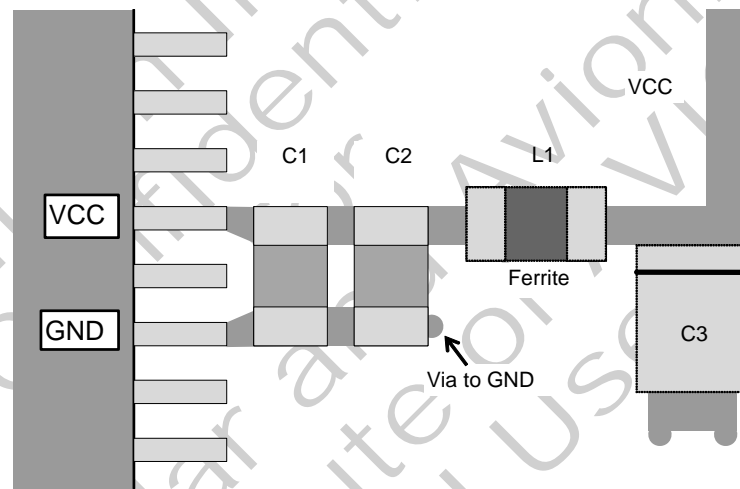
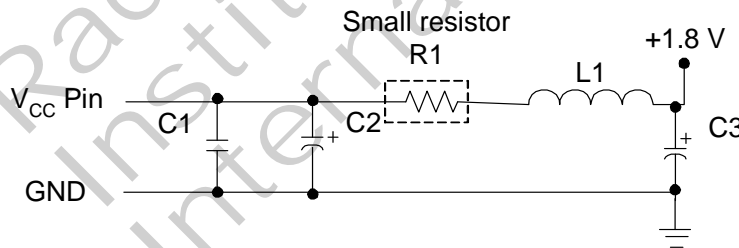

Figure 35. Decoupling and Bypass Capacitor Placement
Figure 36. Decoupling and Bypass Schematic
Designers should include decoupling and bypass capacitors at each power pin in the layout. These capacitors are shown schematically in Figure 36. Place them as close as possible to the SiI9134 device pins, and avoid routing through vias if possible, as shown in Figure 35, which represents the various types of power pins on the transmitter.
**Note:** Figure 35 shows the decoupling and bypass capacitor placement for the TQFP package.